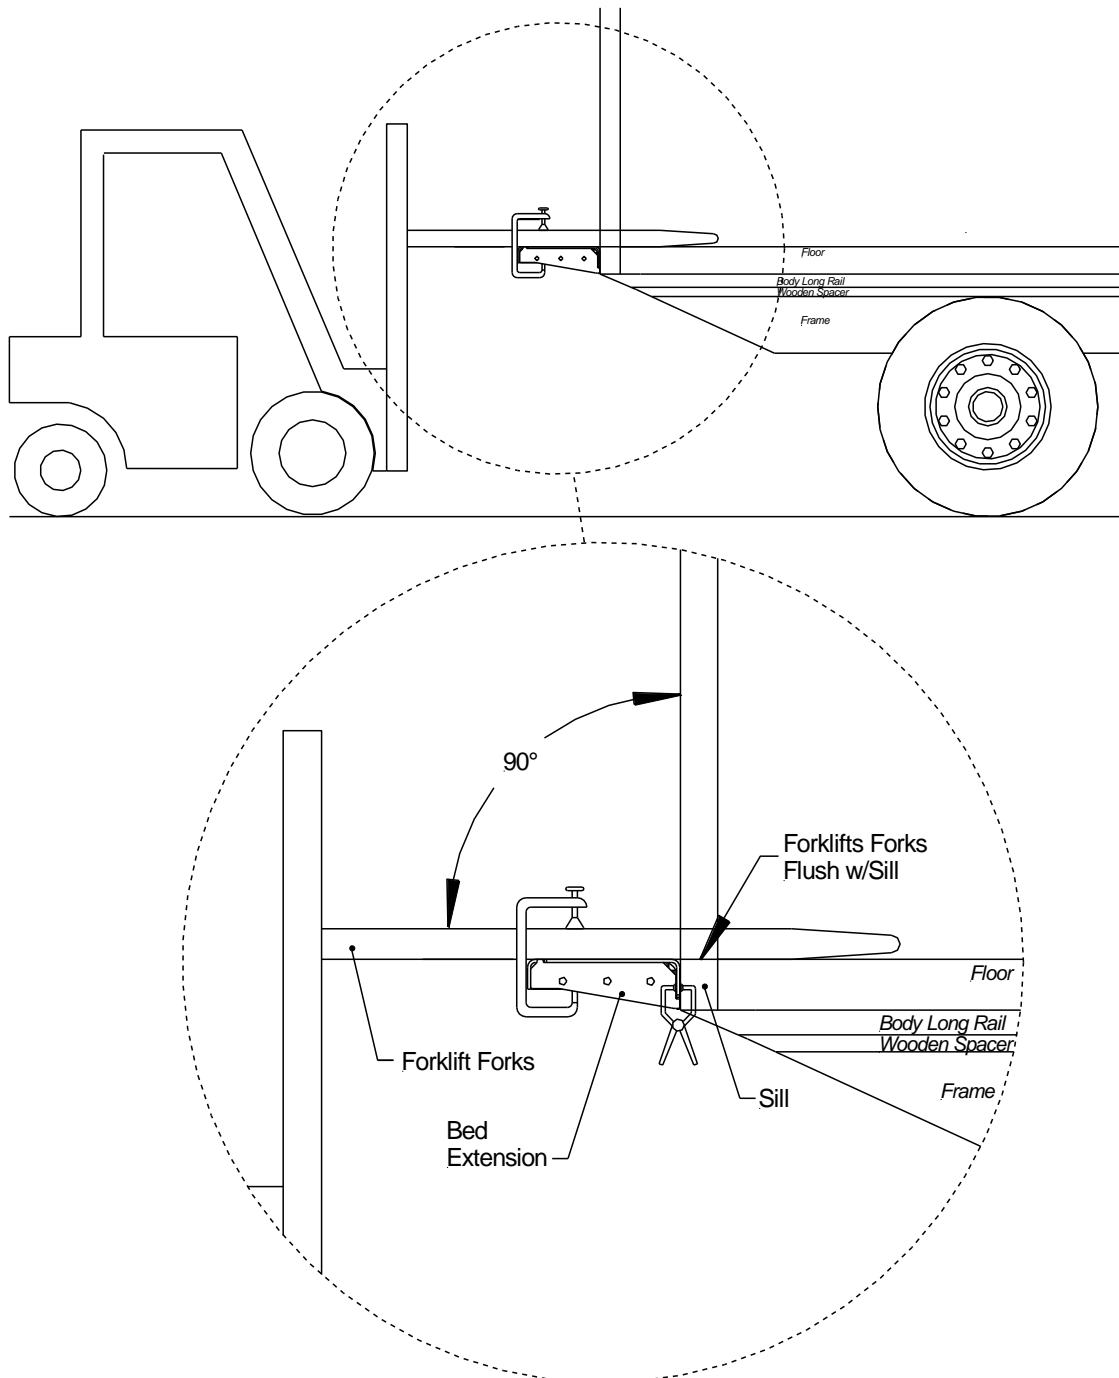

Fig.9
1. Mark the center of the vehicle body and the bed extension. Clamp the bed extension to the forklift Forks, **Fig.9**. Maintain the bed extension centered and flush to the sill vertically and horizontally. Check for squareness before continuing.